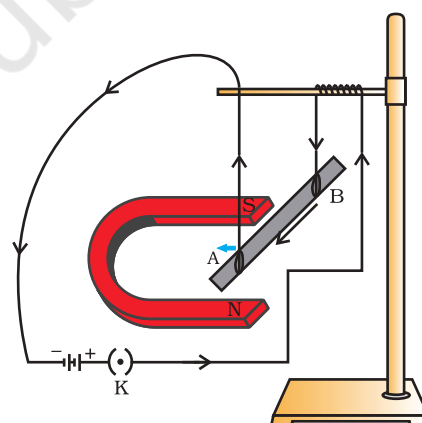

Figure 13.12
- Take a small aluminium rod AB (of about 5 cm). Using two connecting wires suspend it horizontally from a stand, as shown in Fig. 13.12.
- Place a strong horse-shoe magnet in such a way that the rod lies between the two poles with the magnetic field directed upwards. For this put the north pole of the magnet vertically below and south pole vertically above the aluminium rod (Fig. 13.12).